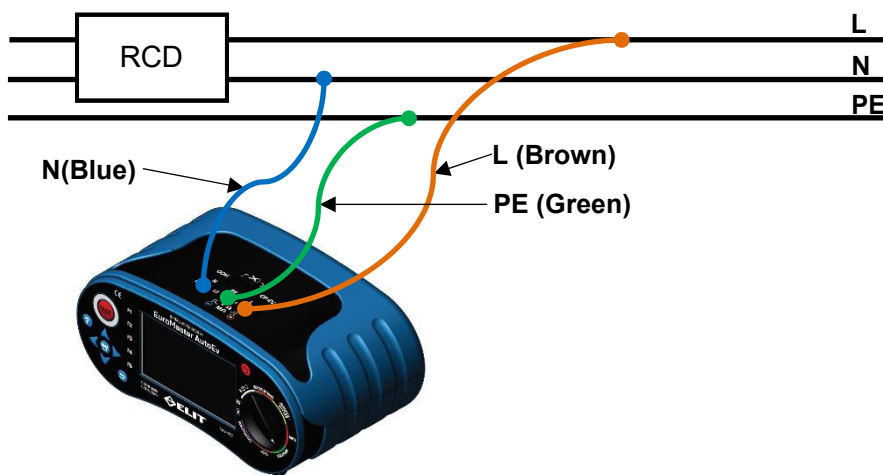

Figure 6.6.1 RCD Connection.
- III. Connect the test leads as shown in Figure 6.6.1.